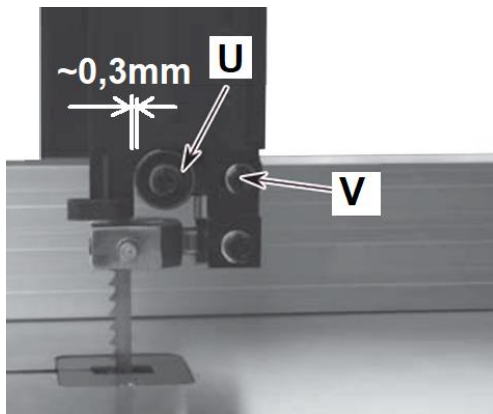

Fig 18
- Adjust ball bearing (U, Fig 18) at rear of blade by loosening socket head bolt (V) and repositioning shaft.
- Secure position of bearing by tightening socket head bolt (V).